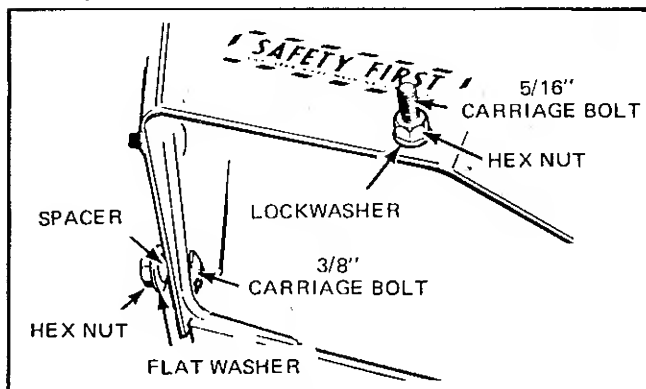
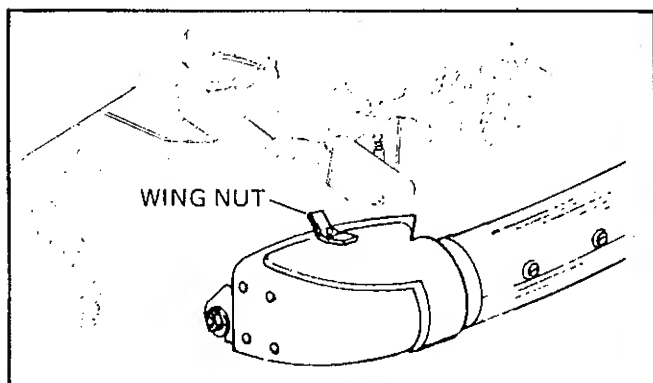

FIGURE 1
FIGURE 2
2. From inside mower housing, install a 5/16 inch carriage bolt, lockwasher, and hex nut (Figure 1) finger tight through top hole of housing.
3. From inside mower housing, secure 3/8 inch carriage bolt, spacer, flat washer, and hex nut (Figure 1) in front hole of housing.
4. Attach vacuum collector adapter to mower housing by hooking adapter between spacer and flat washer (Figure 1). Adjust position of adapter and tighten both front and top nuts securely. Install a flanged wing nut on top mounting screw (Figure 2).